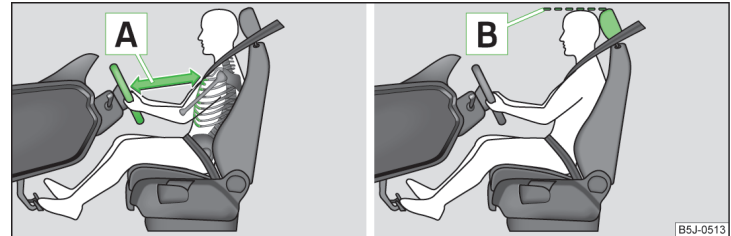

Fig. 1 The correct distance of the driver to the steering wheel/correctly adjusted head restraint
- ✓ Adjust the steering wheel so that the distance **A** between the steering wheel and your chest is at least 25 cm » Fig. 1. Adjust the steering wheel » page 10, *Adjusting the steering wheel position*.
- ✓ Adjust the head restraint such that the top edge of the head restraint is at the same level as the upper part of your head **B** » Fig. 1 on page 9 » page 9.
- ✓ Adjust the head restraint such that the top edge of the head restraint is at the same level as the upper part of the head  » Fig. 1 on page 9 » page 9.